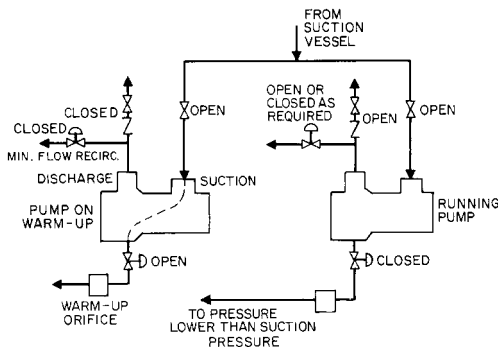

FIGURE 11 Arrangement for warm-up through pump casing drain connection
**Warm-Up Piping** When it is necessary for a pump to come up to operating temperature before it is started up or to keep it ready to start at rated temperature, provision should be made for a warm-up flow to pass through the pump. There are a number of arrangements used to accomplish this. If the pump operates under positive pressure on the suction, the pumped liquid can be permitted to drain out through the pump casing drain connection to some point at a pressure lower than the suction pressure (Figure 11). Alternately, some liquid can be made to flow back from the discharge header through a jumper line around the check valve into the pump and out into the suction header (Figure 12). An orifice is provided in this jumper line to regulate the amount of warm-up flow. Care must be exercised in such an installation to maintain the suction valve open (unless the warm-up line valve is closed, as when the pump is to be dismantled) lest the entire pump, suction valve, and suction piping be subjected to full discharge pressure.